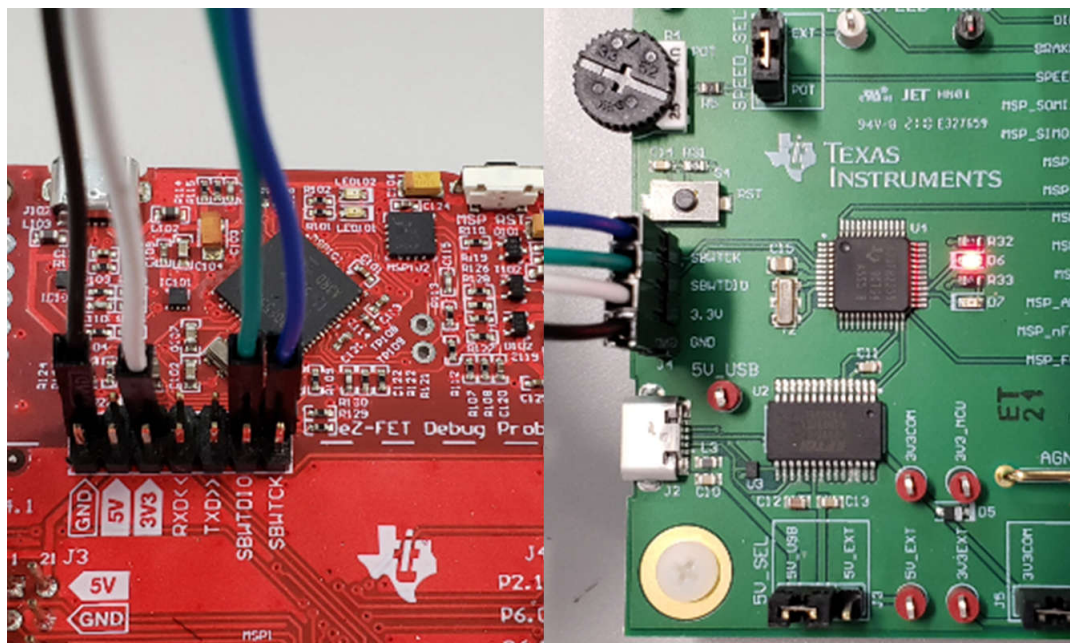

Figure 3-3. MSP430 LaunchPad eZ-FET Debug Probe Connected to MSP430FR2355
2. Connect the top pins on the eZ-FET side of the LaunchPad of the GND, 3V3, SBWTDIO, SBWTCK signals to their respective pins on J7 of the MCF8329EVM as shown in Table 3-1 and Figure 3-3.